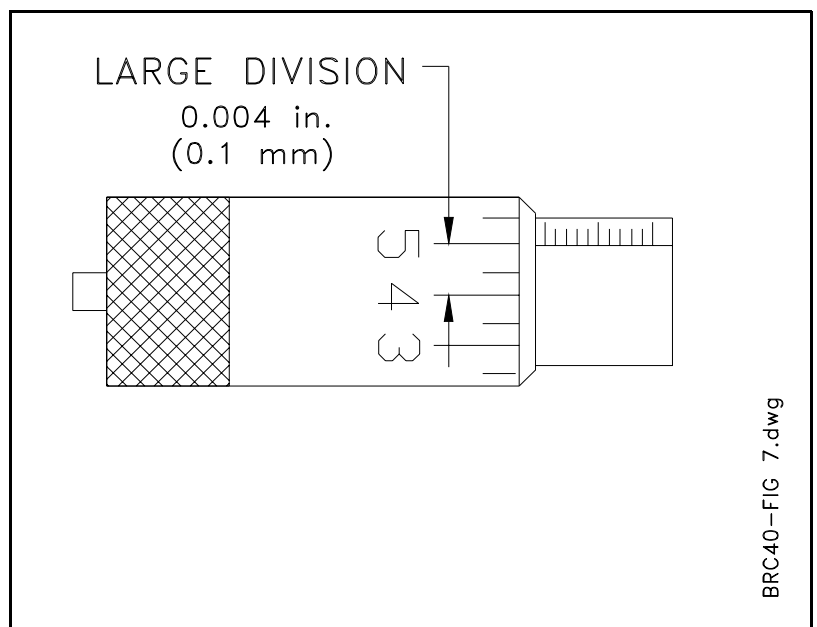

Figure 13 Cut Depth Micrometer
- 15) Turn both Cut Depth Micro-meters clockwise one large division to move the cutting tool tips into the faces of the rotor by 0.004 inch (0.1 mm) Figure 13 illustrates that 0.004 inch is the distance between two numbers on the micrometer.